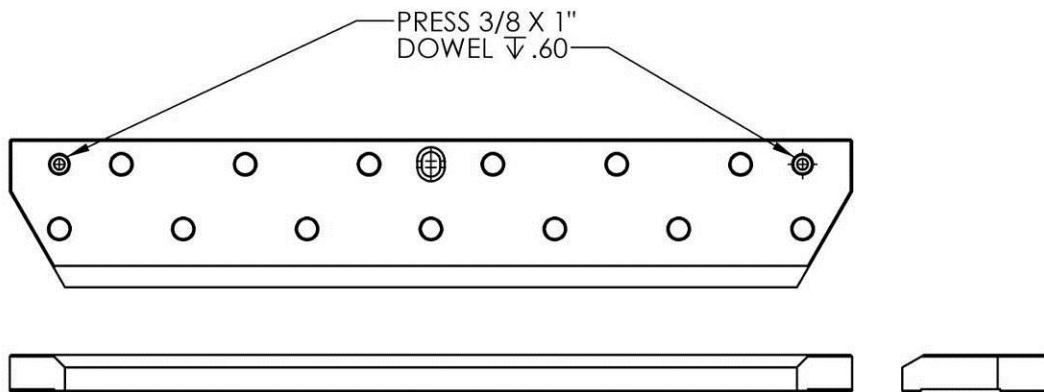

Figure 53: Prep Work for D0901530 Adapter Large Hex
(2) 3/8" x 1" dowel pins
- Press (2) 3/8" x 1" dowel pins into D0901530 as shown on Figure 53. Pins should sit about 0.4" above the surface.
- Locate D0901526 Large Upper Hex Wall on D0901530 Adapter Large Hex with the (2) pins already installed in D091530 (see Figure 53). Make sure pins seat properly into mating hole and slot.
- Press (2) 3/8" x 1" dowel pins into D0901531 as shown on Figure 53. Pins should sit about 0.4" above the surface.